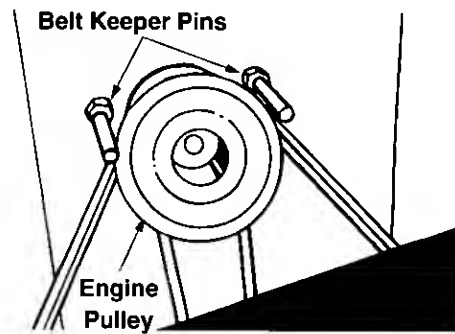
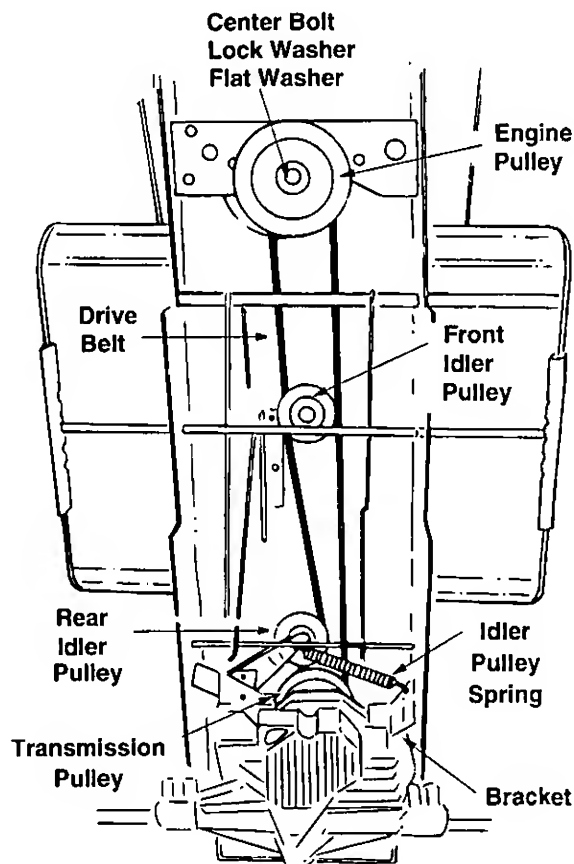

Figure 21
Figure 23
NOTE: Figure 21 and Figure 23 are shown with the unit tipped up for clarity. It is not necessary to tip the unit to remove the belts.
3. Remove the belt keeper pins from the lower frame. See Figure 21.
Note: When reassembling, make certain belt keeper pins are assembled in same locations from which they were removed. See Figure 21.
DRIVE BELT (See Figure 23)